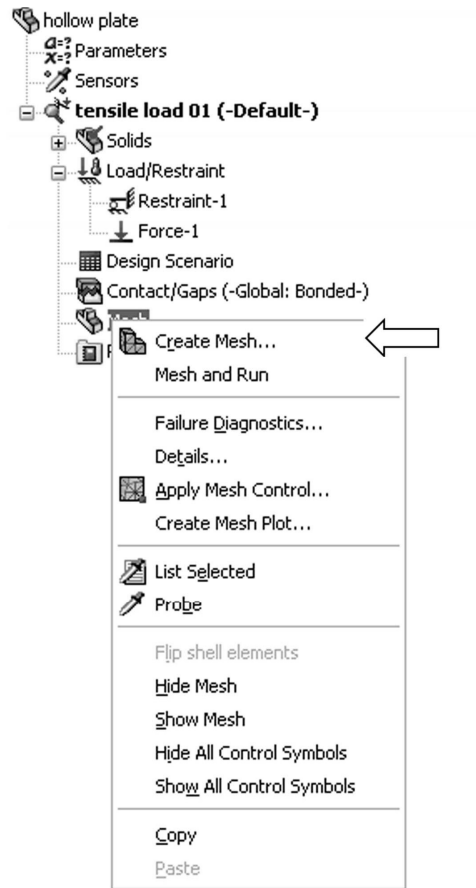

Figure 2-14: Mesh pop-up menu
Now, right-click the **Mesh** folder, to display the pop-up menu (Figure 2-14).
*You can control the mesh visibility by selecting **Hide Mesh** or **Show Mesh** from the pop-up menu shown in Figure 2-14.*